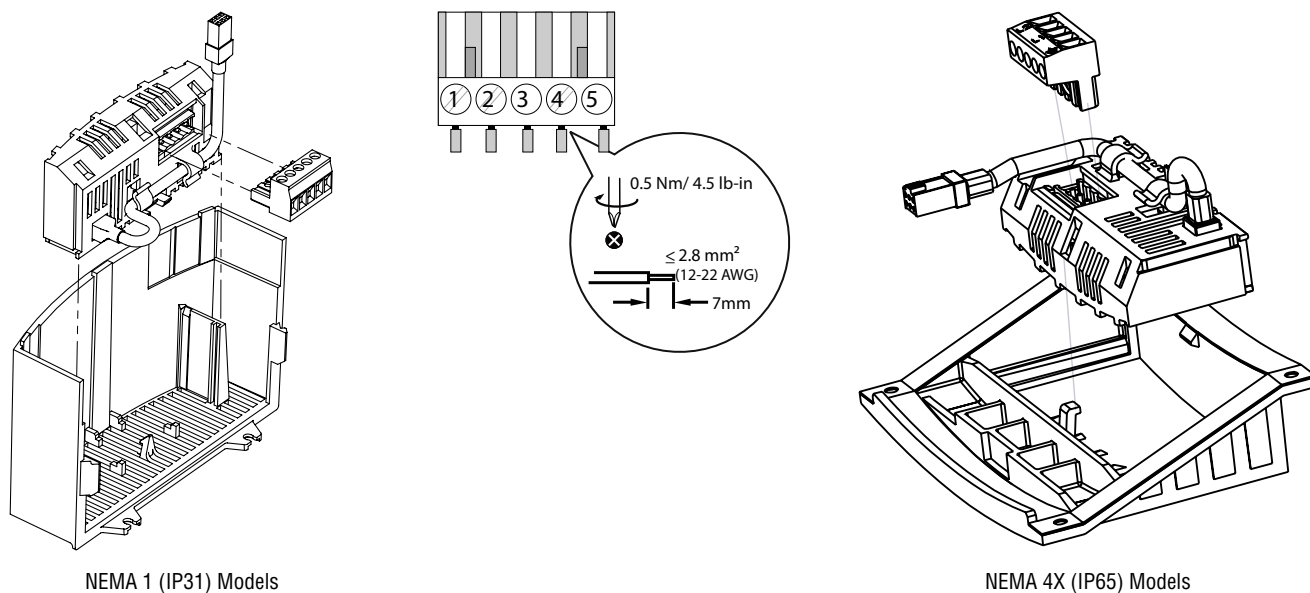

Figure 2: Installing the DeviceNet Communications Module
2. Insert the DeviceNet option module in the terminal cover and securely "click" into position as illustrated in Figure 2.